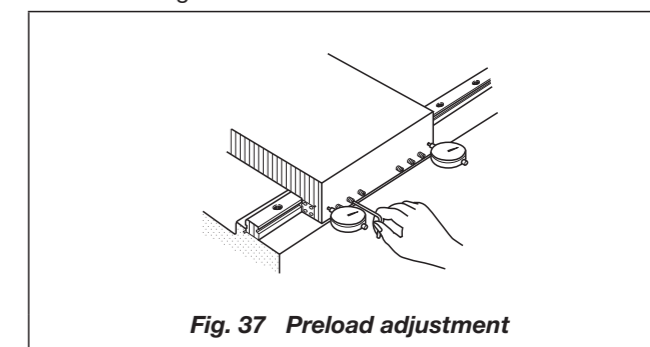

Fig. 37 Preload adjustment
- While measuring the clearance with a dial gauge as shown in Fig. 37, tighten all preload adjusting screws starting from the screw in the center.